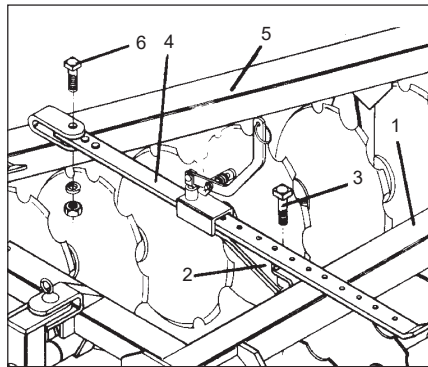

FIGURE 07
11 - Place on the front frame item 1, pull handle item 2, with the pin item 3, pass the ruler lock item 4 through the inner of the handle lock body, joining the rear section item 5 through bolt item 6, as shown the **Figure 07**.